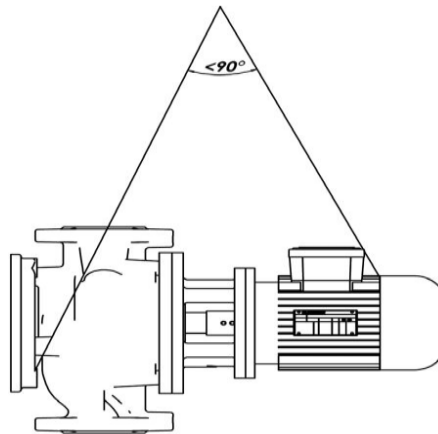

Figure 1 Pump carrying
- Pump should be hoisted as it is indicated in Figure 1 -1 and Figure 1 -2 for not causing any damage in pumps. Motor hanging ring should absolutely not be used while lifting complete group.